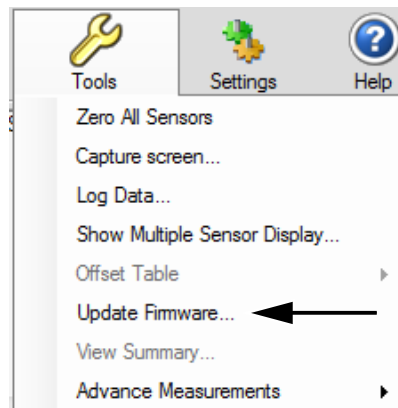

Figure C-2. Update Firmware
2. Launch the Update Firmware command from the **Tools** menu. See Figure C-2.